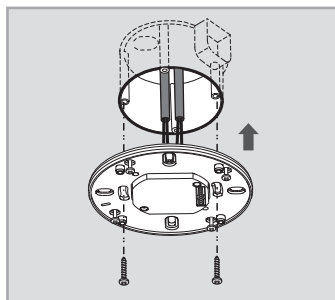

FIG.11
- Fix the power box into European standard junction box with 2pcs screws (See FIG.11).